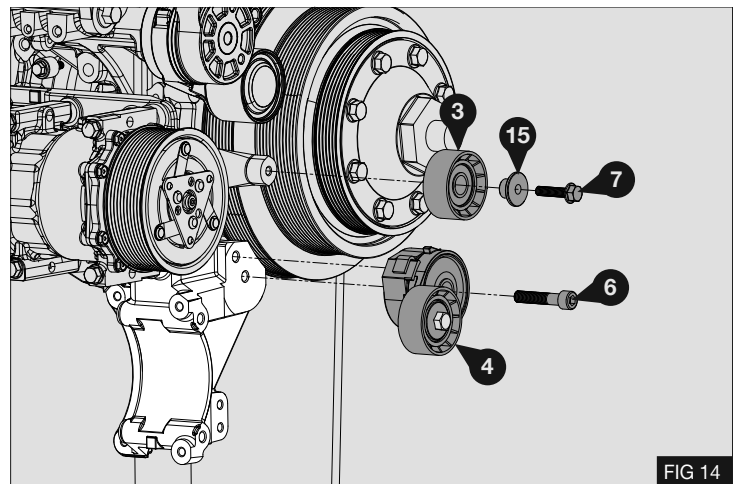
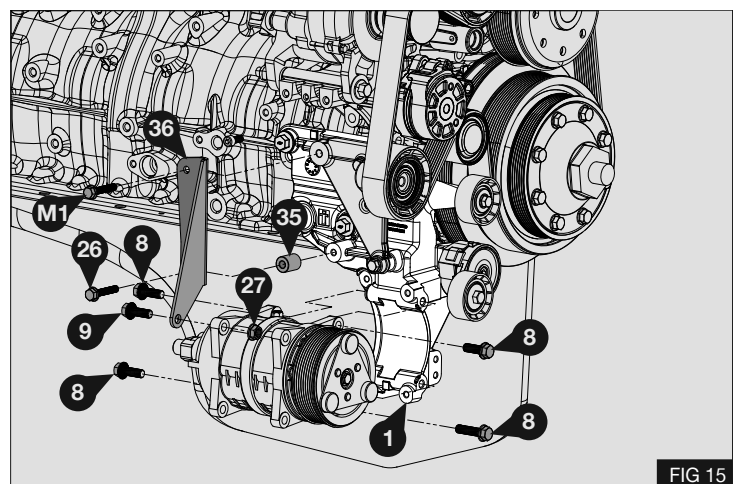

FIG 14
FIG 15
2. Fit Idle pulley (3) to bracket (1) with spacer (15) and M8x35 flange bolt (7). - Fig 14
3. Fit automatic tensioner (4) using M10x50 Cap head bolt (6). - Fig 14
4. Torque bolt (7) to 35Nm / 26Lbft
5. Torque bolt (6) to 45Nm / 32Lbft
6. Fit compressor to bracket (1) using 4 x M10x30 bolts (8). - Fig 15
7. Torque bolts (8) to 58Nm / 42.8Lbft
1. Fit compressor to bracket (1) using 4 x M10x30 bolts (8) - Fig 15
2. Torque bolts (8) to 58Nm / 42.8Lbft
3. Fit Support plate (36) with spacer (35) to the mount bracket (1) secure using M8x45 bolt (26) and remaining original bolt (M1) through the foolish pulley mount (M) and into the bracket (1)
4. Secure to compressor ear using M10x40 bolt (9) and M10 nut (27) - Fig 15